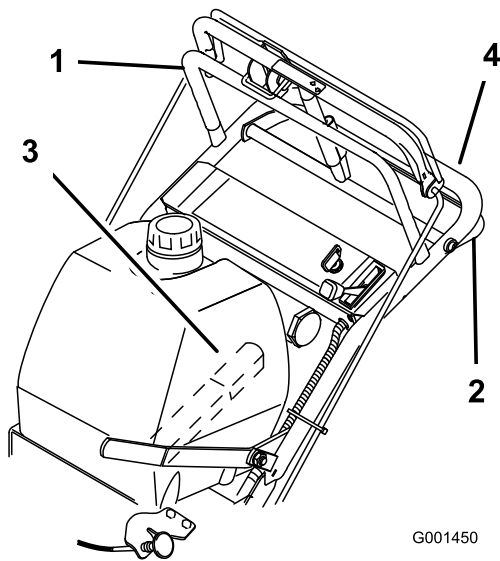
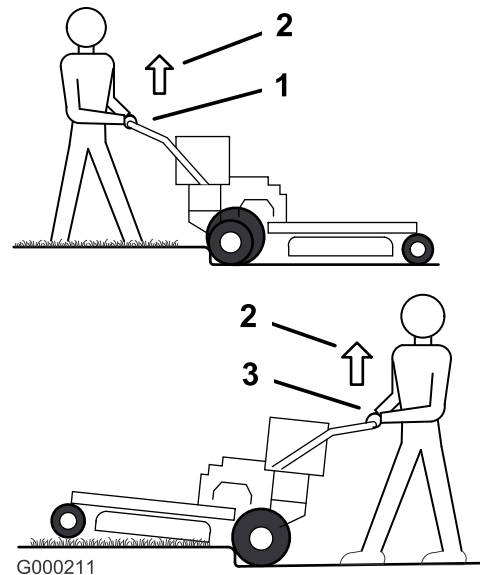
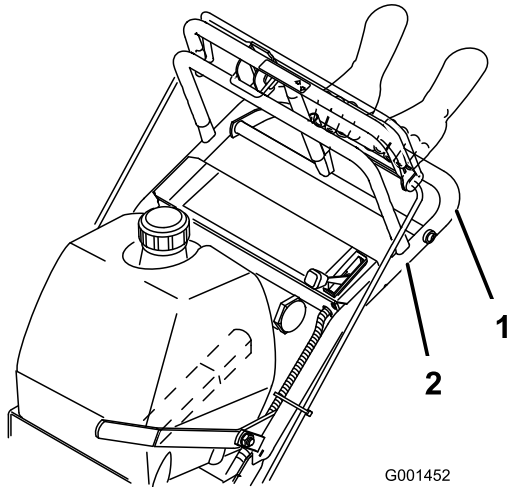

Figure 9
Figure 10
Figure 11
1. To move the machine forward, move the shift lever to a forward gear (Figure 9).
3. Slowly press the upper control bar to move forward (Figure 9).
To move straight, apply equal pressure to both ends of the upper control bar (Figure 9).
To turn, release pressure on the upper control bar side in the direction you want to turn (Figure 9).
3. Slowly squeeze the lower control bar and lower handle together to move rearward (Figure 9).
3. Drive machine until the caster wheels contact the curb (Figure 10).
4. Lift the front of the machine by pushing down on the lower handle (Figure 10).
5. Drive the machine until the drive wheels contact the curb (Figure 10).
6. Lower the front of the machine (Figure 10).
7. At the same time, engage the lower control bar and lift up on the lower handle to drive over the curb (Figure 9 and Figure 10).
3. Drive the machine until the drive wheels contact curb (Figure 10).
4. At the same time, engage the lower control bar and lift up on the lower handle (Figure 9 and Figure 11).